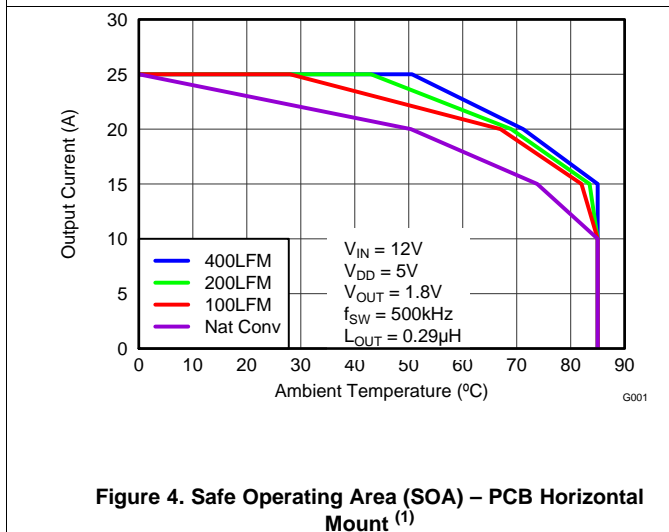
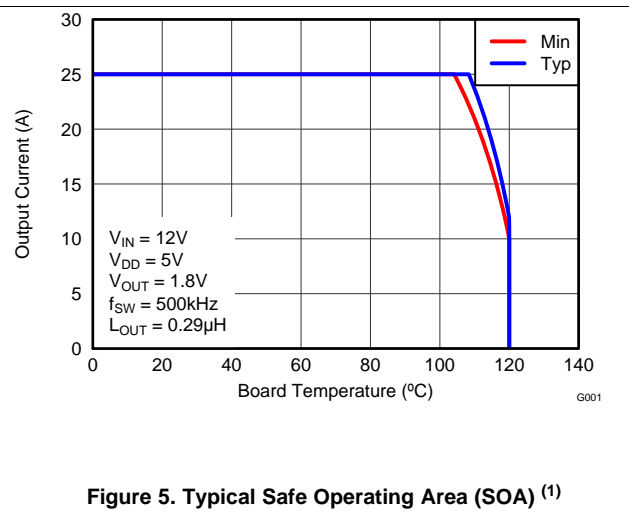

Figure 4. Safe Operating Area (SOA) – PCB Horizontal Mount (1)
Figure 5. Typical Safe Operating Area (SOA) (1)
The SOA curves in the CSD95375Q4M datasheet give engineers guidance on the temperature boundaries within an operating system by incorporating the thermal resistance and system power loss. Figure 4 and Figure 5 outline the temperature and airflow conditions required for a given load current. The area under the curve dictates the safe operating area. All the curves are based on measurements made on a PCB design with dimensions of 4" (W) x 3.5" (L) x 0.062" (T) and 6 copper layers of 1 oz. copper thickness.